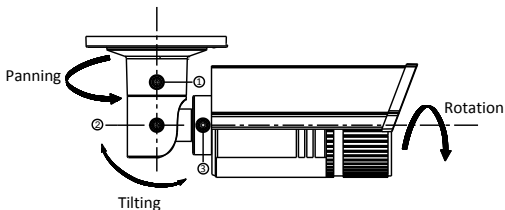

Figure 2-7 Position Adjustment
1. Loosen the lock screw-1 shown in Figure 2-7.
1. Loosen the lock screw-2 shown in Figure 2-7.
1. Loosen the lock screw-3 shown in Figure 2-7.